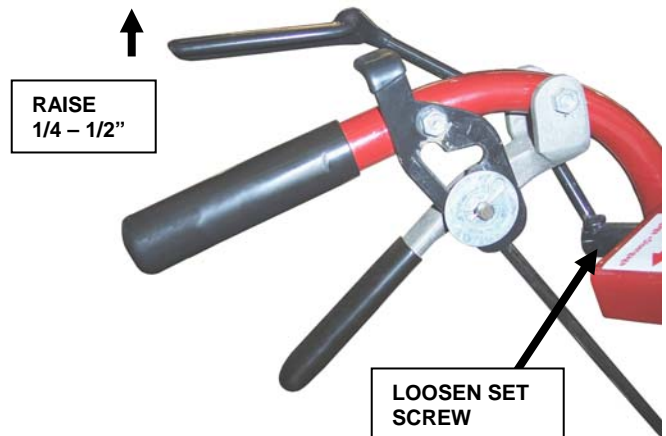

FIGURE 6.15
1. Loosen set screw on OPC boss. See Figure 6.15.